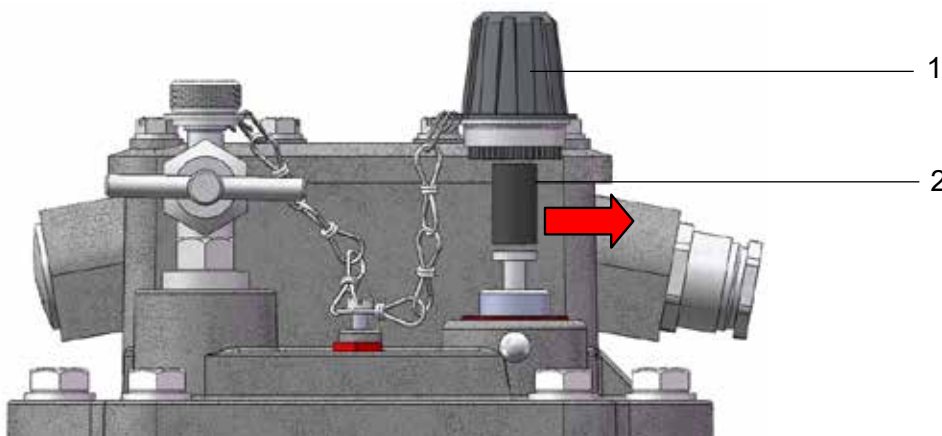

Figure 3 - Removal of transport lock
- Remove the large cap nut (Fig. 3/ no. 1)
- Take the transport lock (Fig. 3/ no. 2) out of the large cap nut